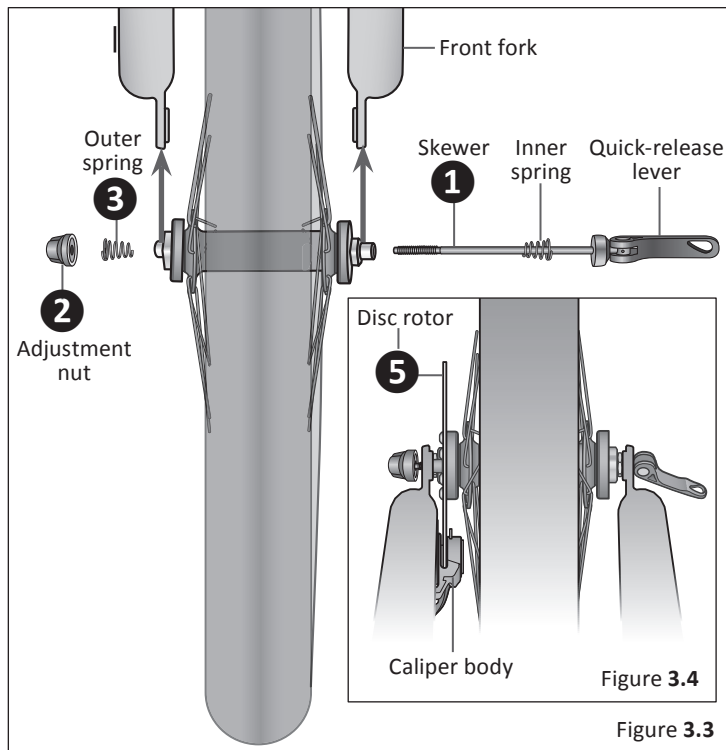

Figure 3.3
- 1** Locate the **skewer** from the small parts carton of your bicycle. **Figure 3.3**